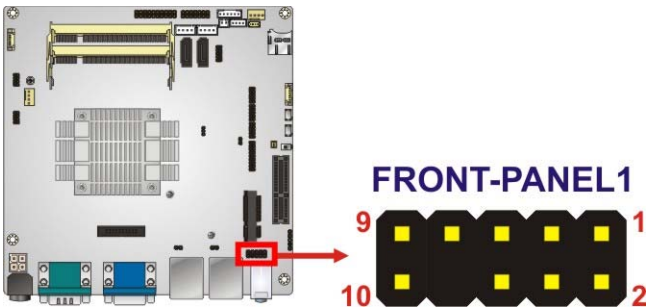

Figure 3-2: Audio Connector Location
**CN Location:** See **Figure 3-2**